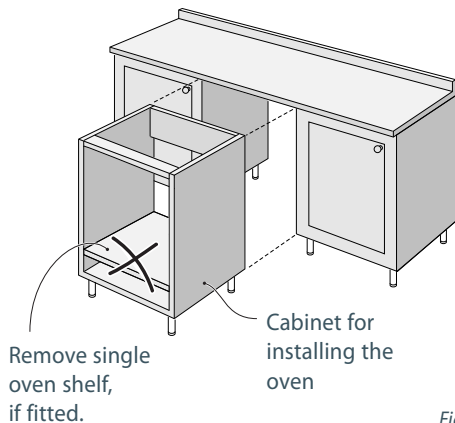

Fig. 4a
Installation "C" by using housing unit (Figs. 4a, 4b)
- Remove the upper cross member support as indicated in Fig. 4a.
- Cut the bottom of the housing as indicated in Fig. 4a.